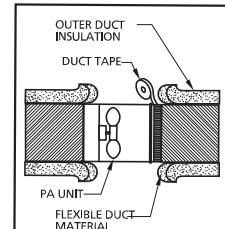

Figure 4
1. Cut and separate the flexible duct. Fold back the outer insulation on the duct to expose the flexible duct material. (See Figure 4)
2. Insert the Power Air unit, with the crimped end pointing toward the problem area, into the flexible duct and secure with duct tape (See Figure 4)